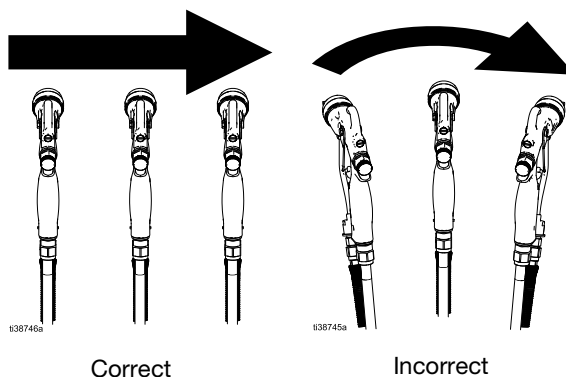

FIG. 15: Spray techniques
4. Spray smooth, even, and parallel strokes. Overlap each stroke by 50% for even coverage. **Do not arc the strokes.** Arcing causes uneven coverage. See FIG. 15.